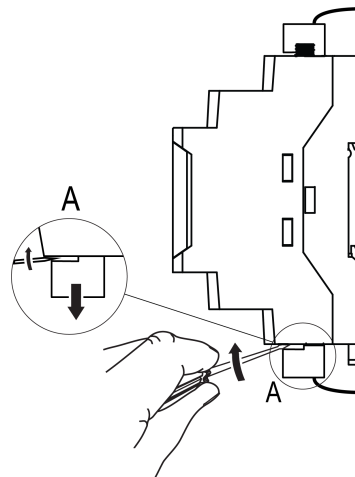

Fig. 5.3 Quick replacement
3. Using a screwdriver or a similar tool, unplug the terminal blocks with existing wiring connected (see Fig. 5.3).